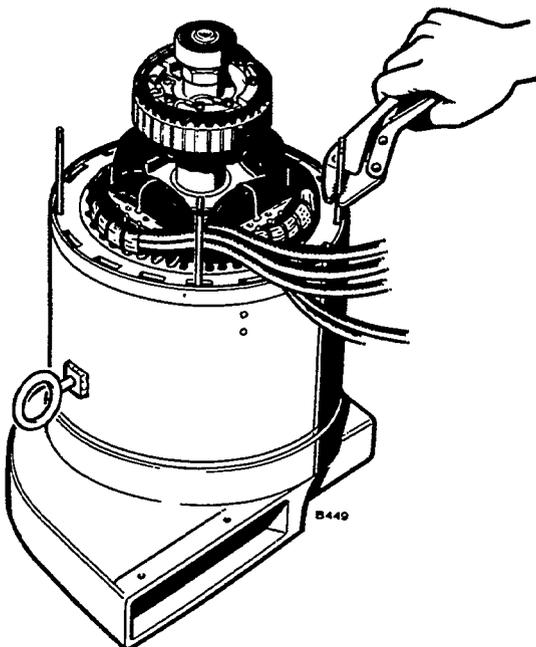

FIGURE 57. STATOR THROUGH-STUD BOLT REMOVAL
5. Remove four stator through-studs with vise grip pliers as shown in Figure 57. Reinstall two studs during reassembly for aligning and guiding the stator over the rotor.